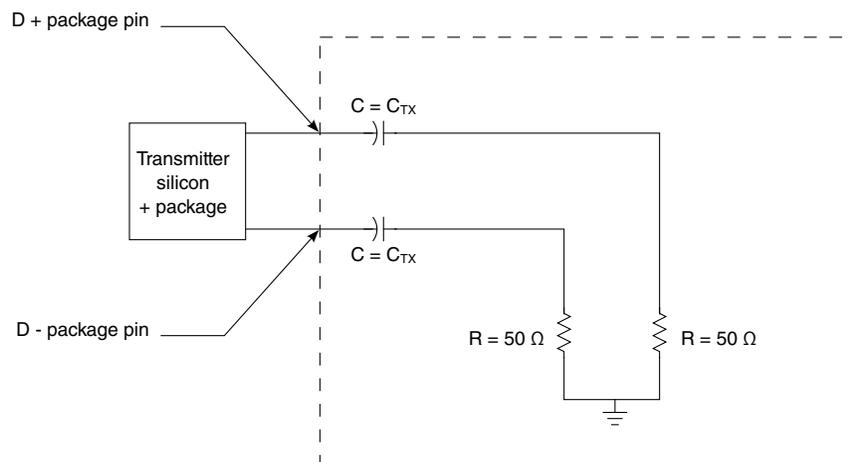

Figure 38. Test and measurement load
1. Specified at the measurement point into a timing and voltage test load as shown in Figure 38 and measured over any 250 consecutive transmitter UIs.
1. Specified at the measurement point and measured over any 250 consecutive UIs. The test load in Figure 38 must be used as the receiver device when taking measurements. If the clocks to the receiver and transmitter are not derived from the same reference clock, the transmitter UI recovered from 3500 consecutive UI must be used as a reference for the eye diagram.